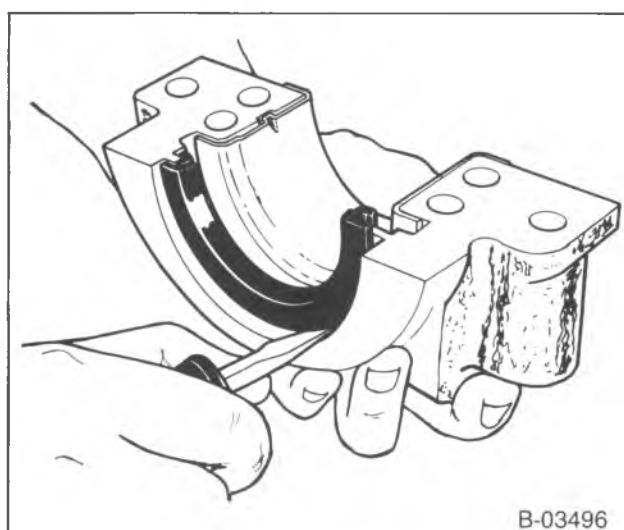

Figure 25—Removing the Rear Crankshaft Seal
4. Upper and lower seal halves (130 and 131) (7.4 L engines). Pry the seal halves out with a screwdriver (figure 25).